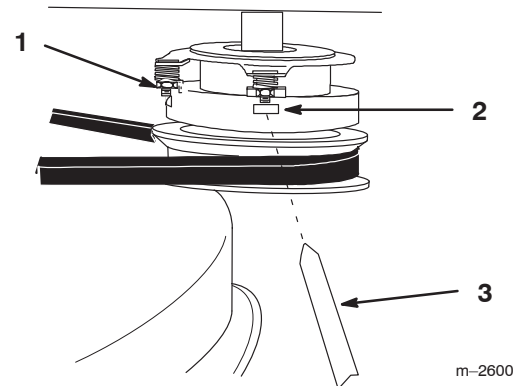

Figure 51
- To adjust clutch, tighten or loosen lock nuts on flange studs (Fig. 51).
- Check adjustment by inserting feeler gauge through slots next to studs (Fig. 51).